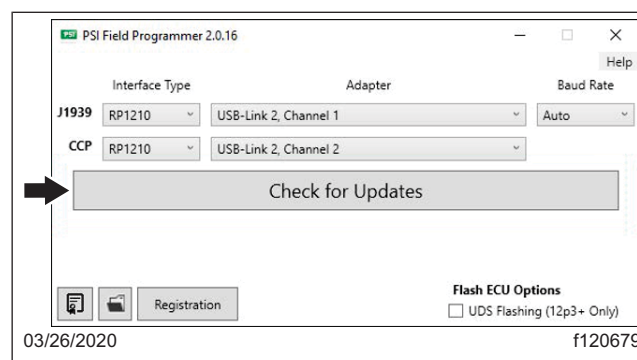

Fig. 12, Selecting Check for Updates.
1. To start the programming process, select 'Check for Updates.' See Fig. 12.